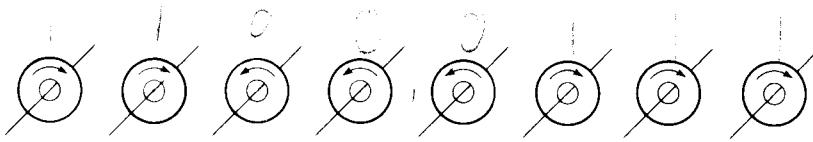

Fig. 1-9 An 8-bit core register.
- 1-11.** In Fig. 1-9 clockwise flux stands for binary 1 and counterclockwise flux for binary 0. What is the binary number stored in the 8-bit core register? Convert this byte to an equivalent decimal number.